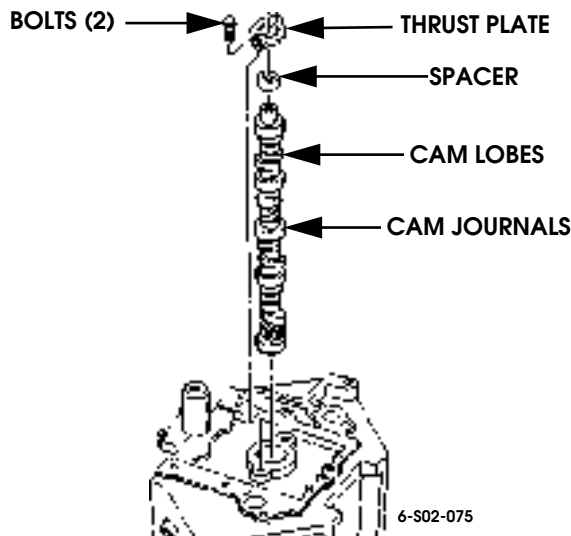

Figure 2-166: Camshaft Installation
5. Install camshaft. Lower and guide cam carefully through and into bearings (Figure 2-166).